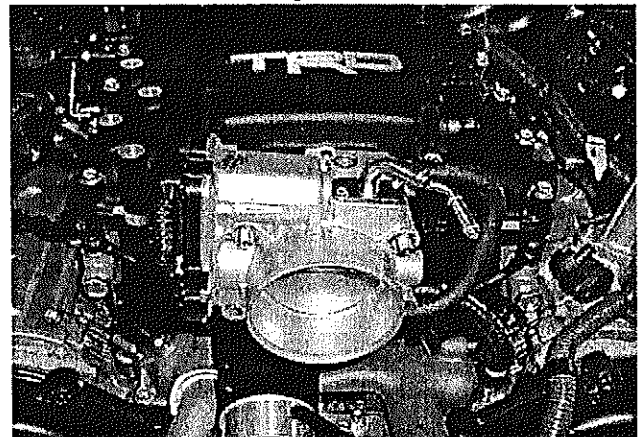

Figure 35
25. Re-use the factory throttle body gasket and install the throttle body (Figure 35). Torque the bolts to 18 N-m (13 ft-lbf).